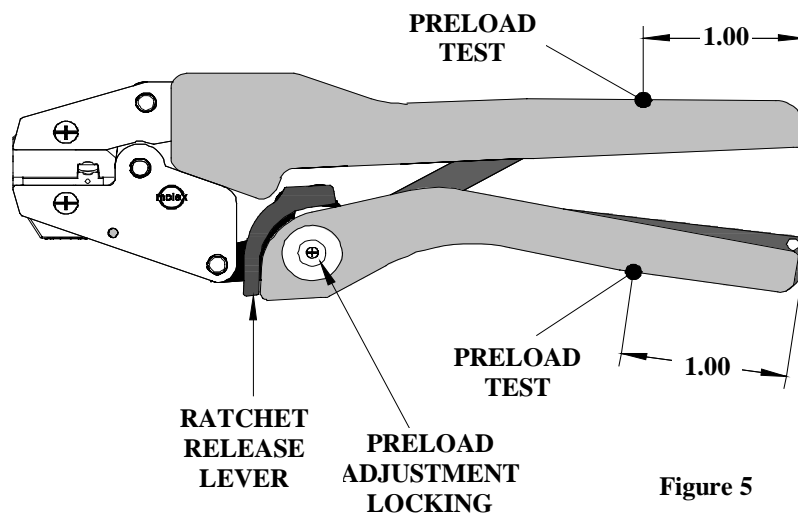

Figure 5
1. Should this tool ever become stuck or jammed in a partially closed position, **Do Not force the handles open or closed**. The tool will open easily by lifting the ratchet release lever (See Fig.5).
### How To Adjust Tool Preload (See Figure 5)
A Certificate of Calibration (see last page) was supplied with the tool. To recalibrate this tool, pin gauge measurements should be taken in each conductor nest and compared to this chart. The tool should be lubricated prior to recalibration to ensure consistent measurements. Handle preload is factory set to 25-45 LBS. See How to Adjust Tool Preload (see Figure 5) to recalibrate.